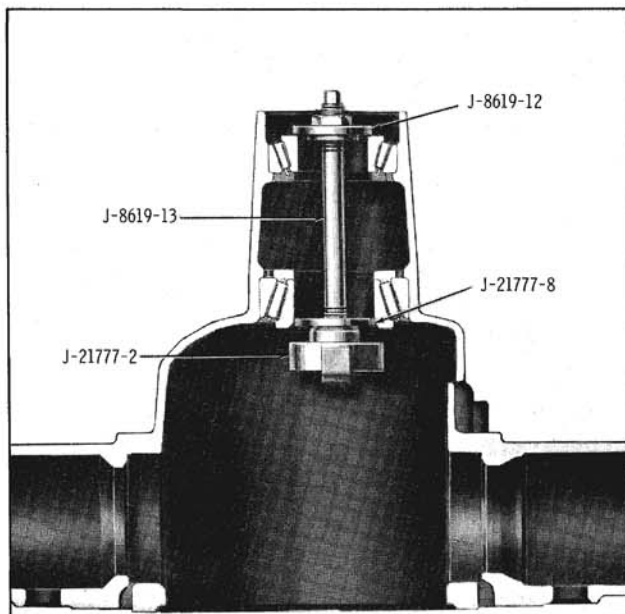

Fig. 10-24 Installing Gauge Plate (54 through 86 Series)
3. While holding bearings in position, install Gauge Plate J-21777-2, Pilot J-21777-8 (54 through 86 series only), Stud J-8619-13 and Washer J-8619-12 and Nut as shown in Figs. 10-24 or 10-25.